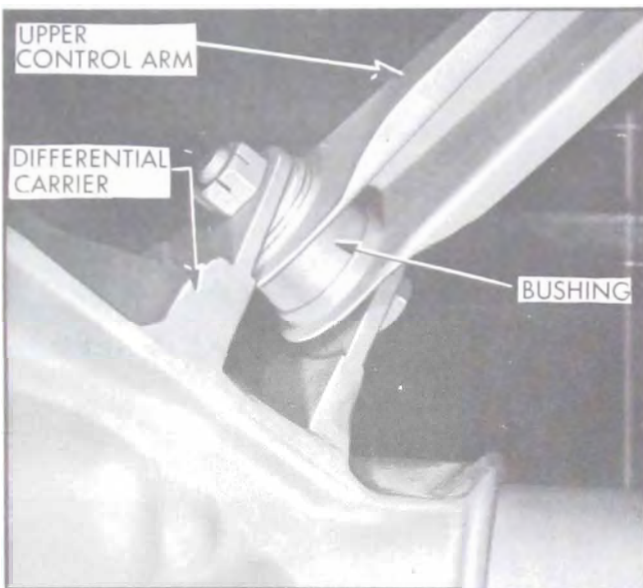

Figure 7-26—Rear Upper Control Arm
2. Disconnect control arm at carrier housing by removing arm bolt and lock nut. See Figure 7-26.